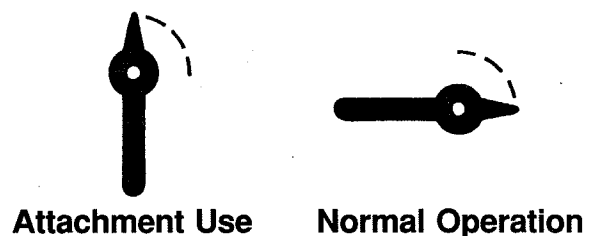

FIGURE 1.
Occasionally it is necessary to operate the Power Eagle brush without spraying additional water on carpet or hard flooring. This is useful for scrubbing areas of ground-in dirt and is accomplished by rotating the solution control lever #7B located at the back of the Power Eagle to the "Attachment Use" setting, see FIGURE 1. The brush will then operate without water spray when the pump intermittent #44A, or continuous switch #49A (right side) are activated.
4. Move solution control lever #7B to attachment use setting. See FIGURE 1.
10. Return solution control lever to normal operation position, see FIGURE 1.